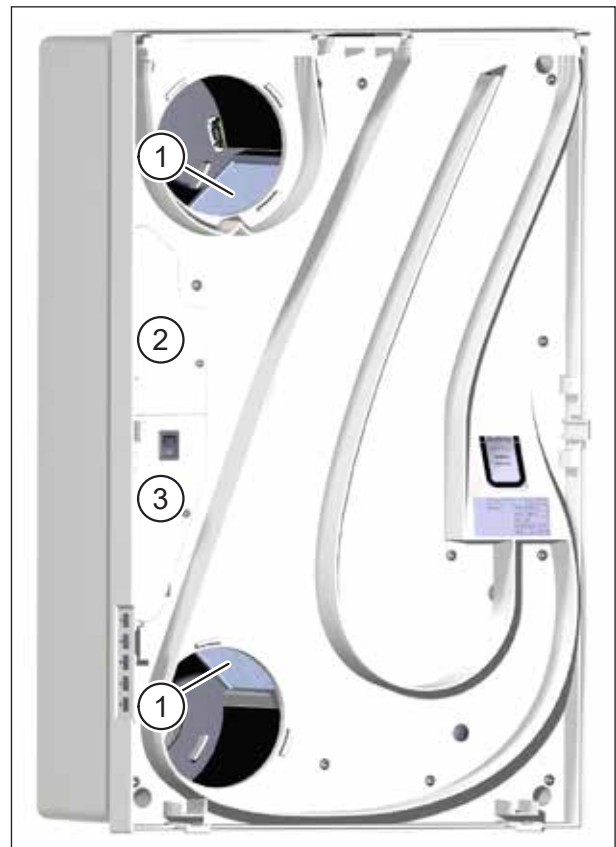

Fig. 15: Check heat exchanger for soiling
- ▶ Visually inspect the heat exchanger (item 1 in Fig. 15) for soiling.
- ▶ Do NOT remove the upper (item 2 in Fig. 15) or lower (item 3 in Fig. 15) electronics compartment cover.